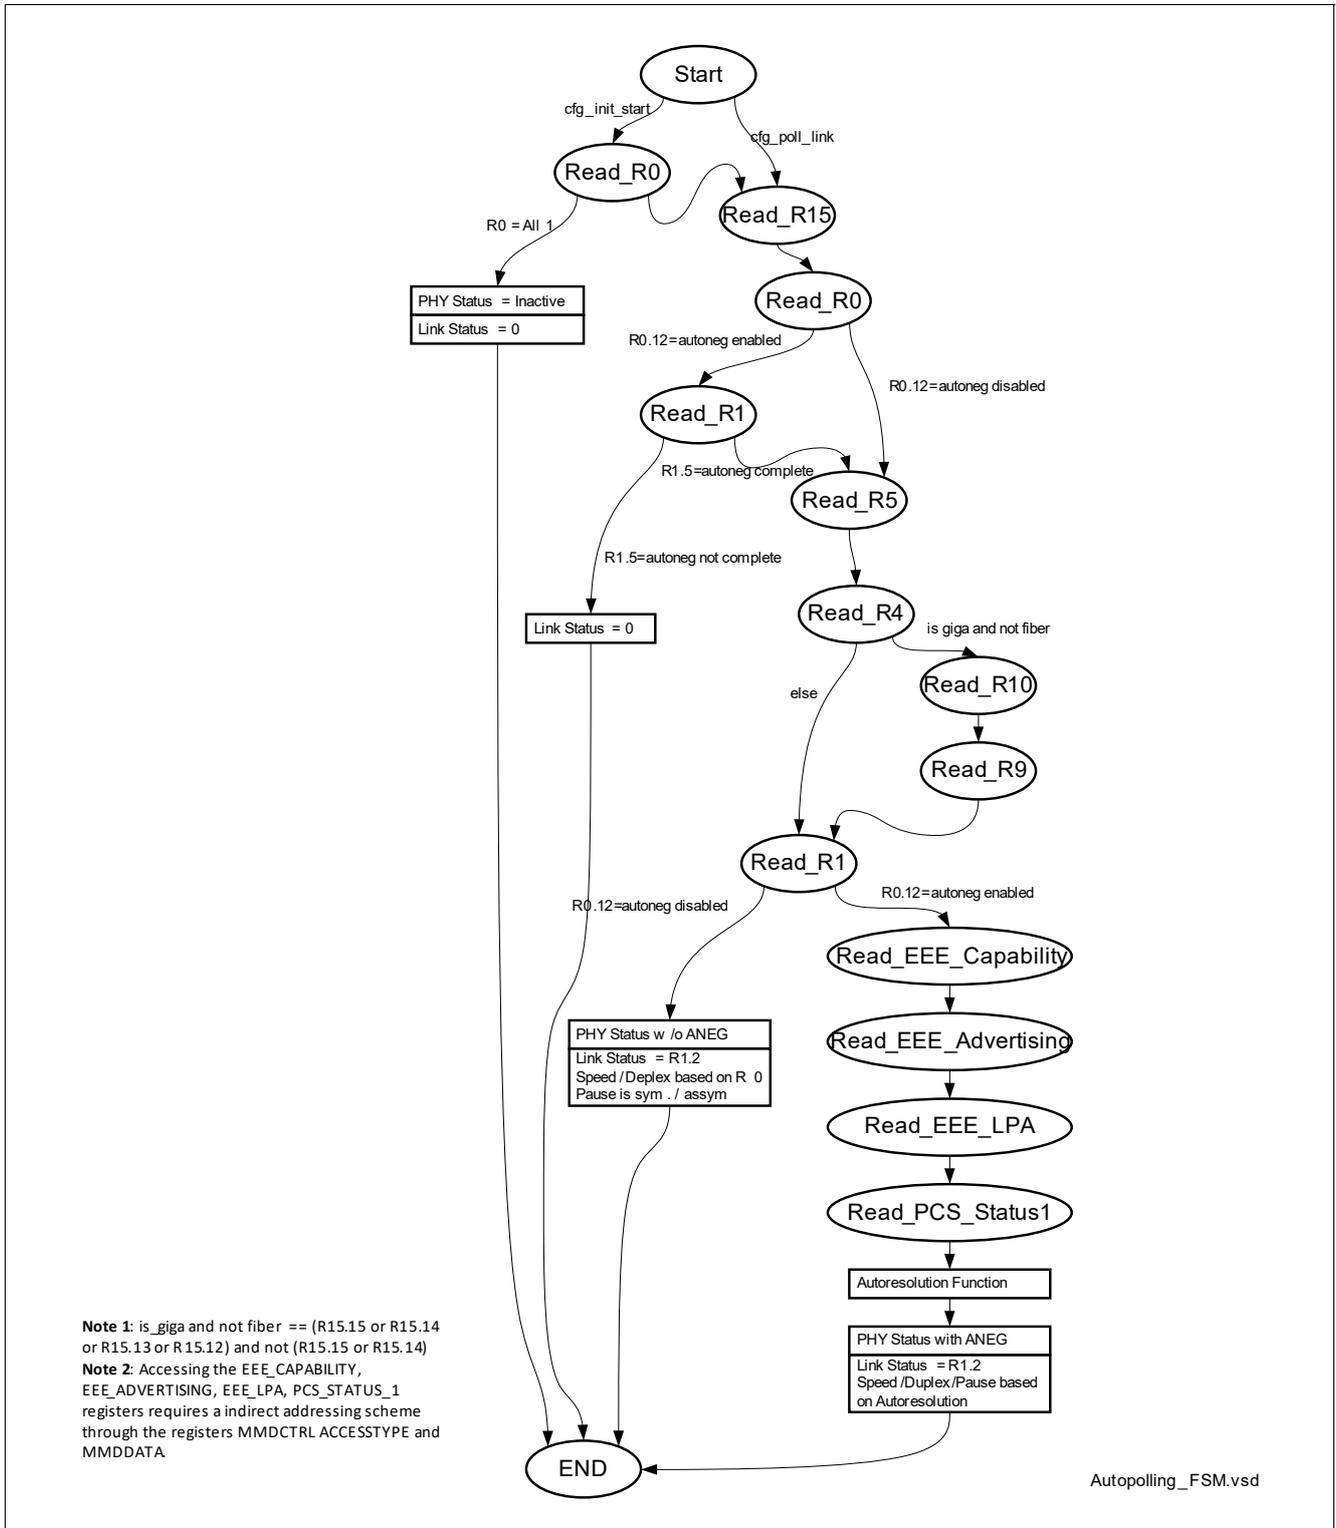

Figure 8 Auto Polling FSM - Main Loop
The Management Data Input/Output (MDIO) master module provides the register interface to access external or internal PHY registers. The access is triggered by an internal bus master access or by an automatic PHY status polling function. See Figure 8 for details.
**Figure 8** describes the main loop of the auto-polling state machine. The state machine reads the PHY's registers in the following sequence: